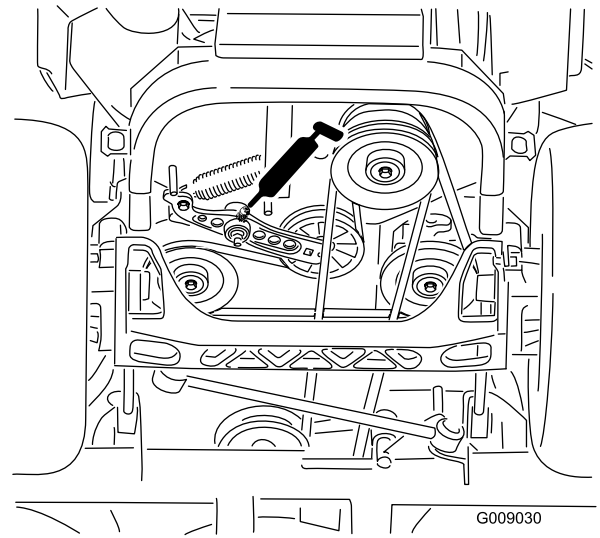

Figure 52
4. Grease the drive-belt idler arms (Figure 52).